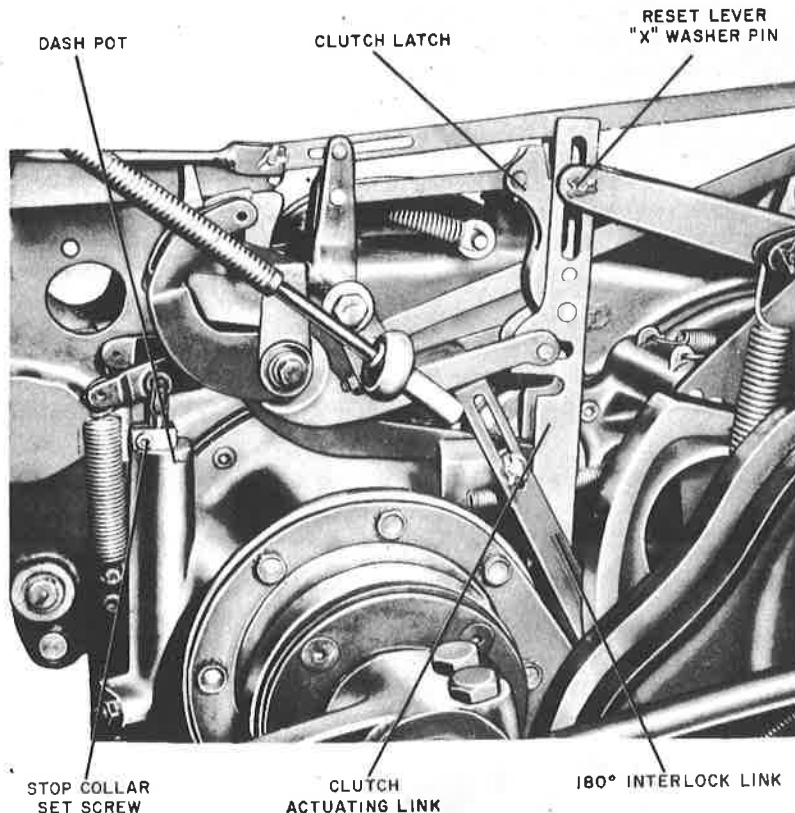

Figure 73. Dashpot Stop Collar Adjustment
17. GEAR BOX DASHPOT STOPCOLLAR ADJUSTMENT. (FIGURE 73)